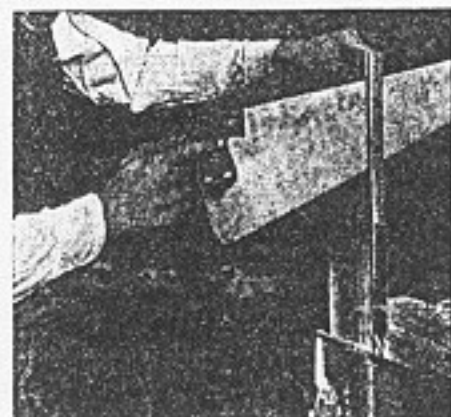

Fig. 68. The try-square is placed on the vise jaw to get the wood plumb. It should not remain there during the sawing process.
1. Short pieces of stock are most conveniently ripped in a bench vise. The piece is clamped so that it is perpendicular or plumb. This is done by placing the handle of a try-square on the vise jaw and its blade against the edge of the piece to be sawed (Fig. 68). This makes it much easier to follow the line.
3. The saw is started on the waste side of the line. Although the correct sawing angle is about 60 deg., it is more convenient in this case to hold the saw nearly horizontal and steady the board with the other hand (Fig. 68). This tends to prevent chattering.